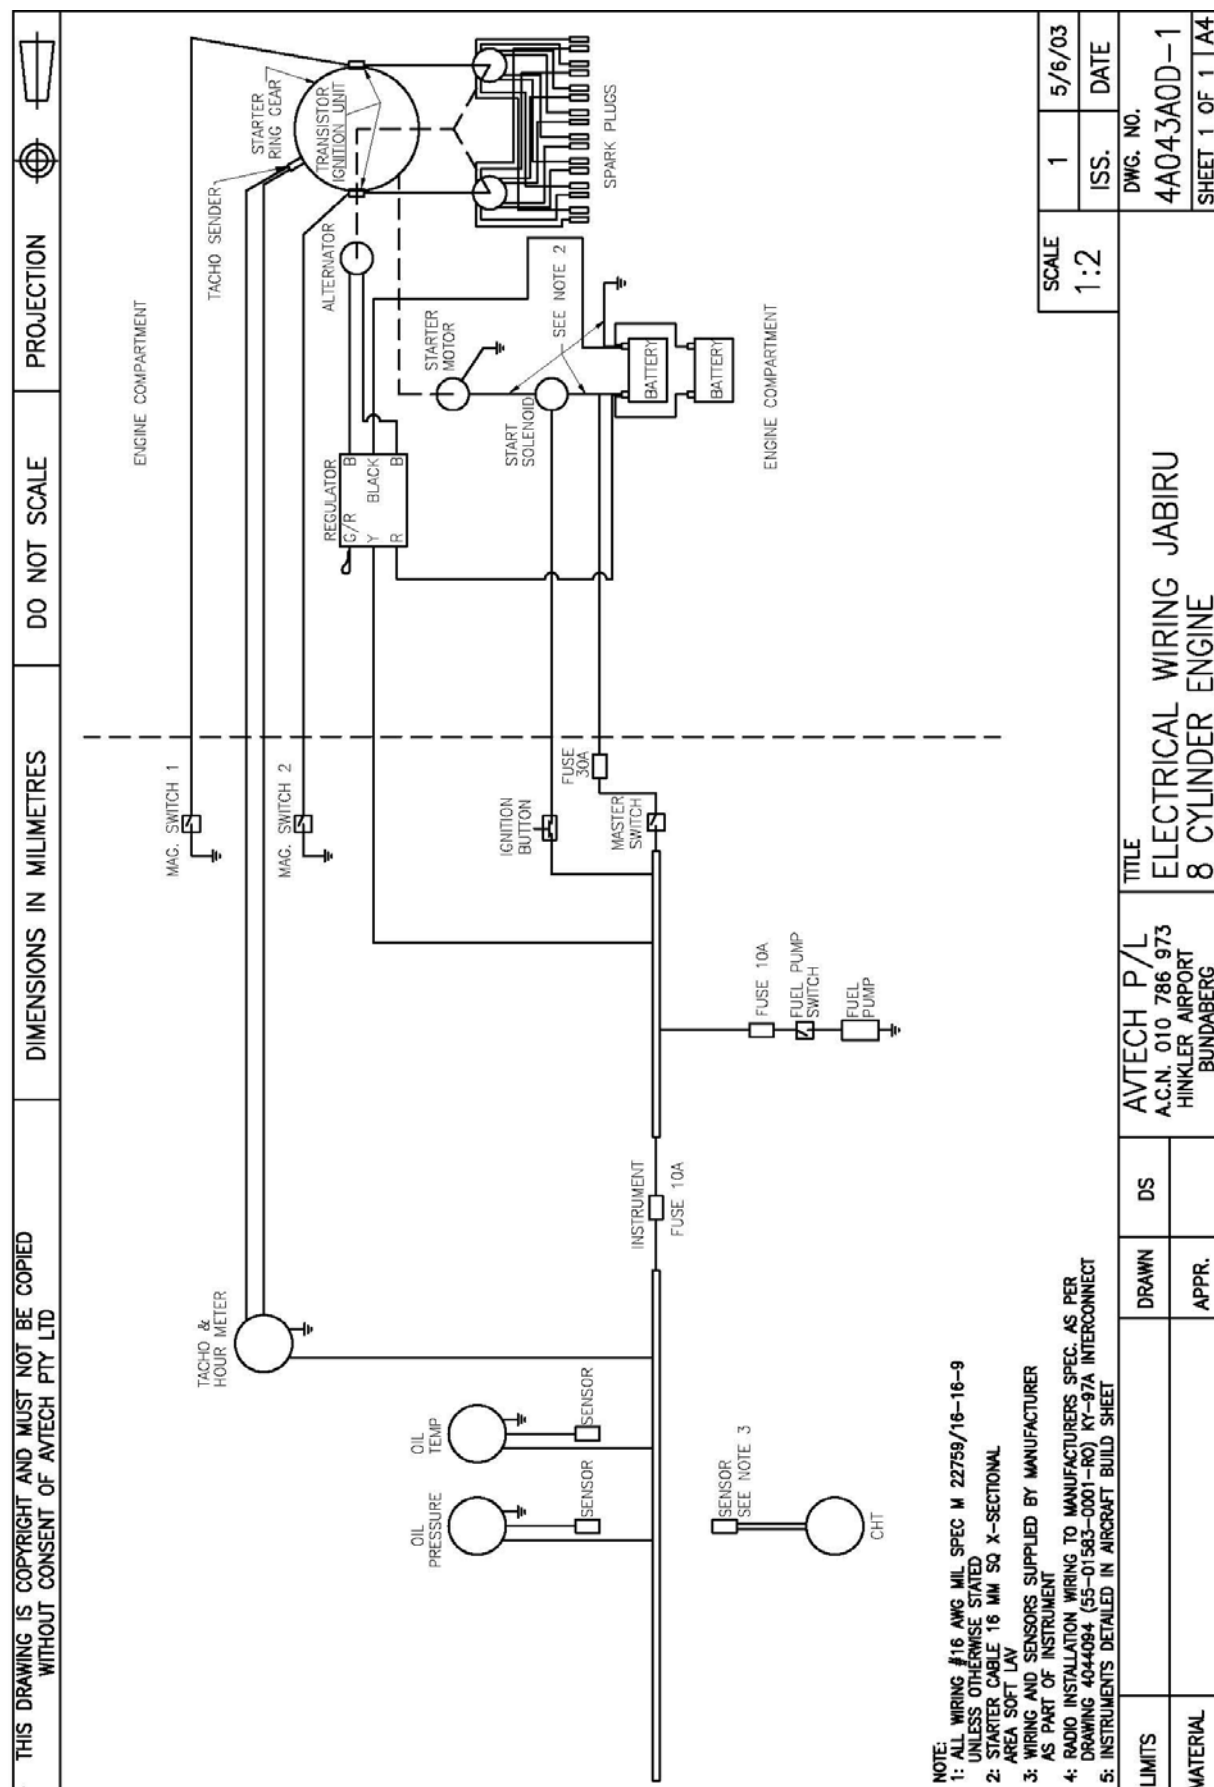

Figure 24. Wiring Diagram
- The ignition is turned OFF by grounding the coils via the ignition switches. This is the reverse of most electrical systems: when the ignition switch is in the open (not connected) position the coil is LIVE and will fire. Wiring details are shown in Figure 24.
- Wiring details are shown in Figure 24.
- General wiring information for the Tachometer is given in the Wiring Diagram, Figure 24. Detailed instructions for its installation are supplied by the instrument manufacturer.
Suppressor for each wire. The wiring diagram in Figure 24 shows suppressors in schematic form. These suppressors are readily available at local electronics stores.